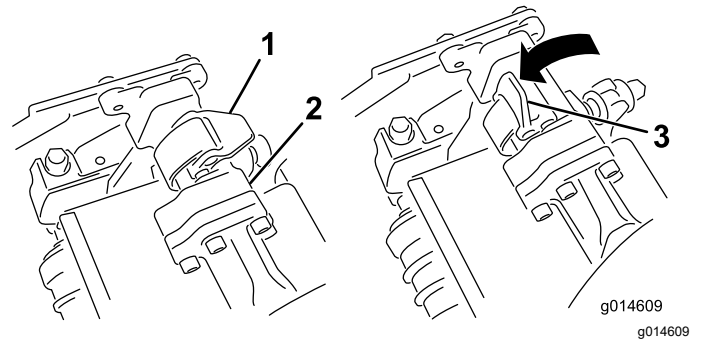
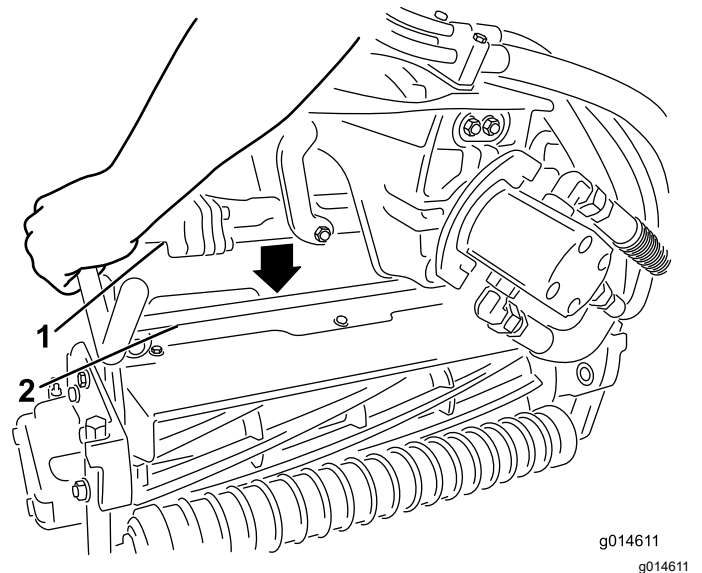

Figure 61
Figure 62
4. Open the latches on the suspension-arm bar (Figure 61) and push the suspension arm down so that the bar fits over both pitch arms on the cutting unit and ensure that the latches go underneath the cutting-unit crossbar (Figure 62).
5. Close the latches down and around the cutting-unit bar and lock them in place (Figure 61).
6. Open the latches on the suspension-arm bar of the cutting unit you are removing (Figure 61).